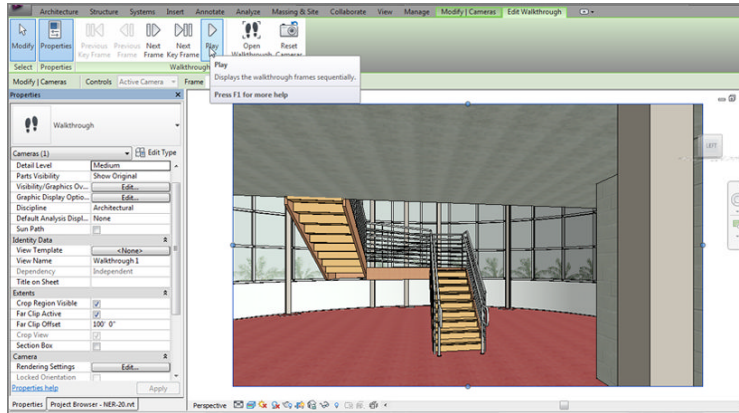

FIGURE 19.21: Clicking the Play button to start the walkthrough
14. On the Modify | Cameras tab, click the Play button, as shown in Figure 19.21.